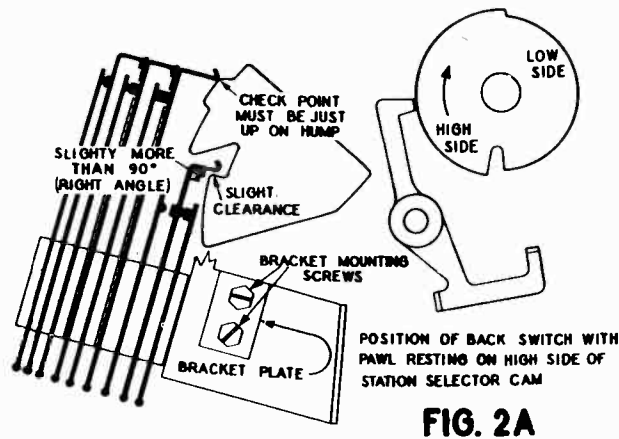
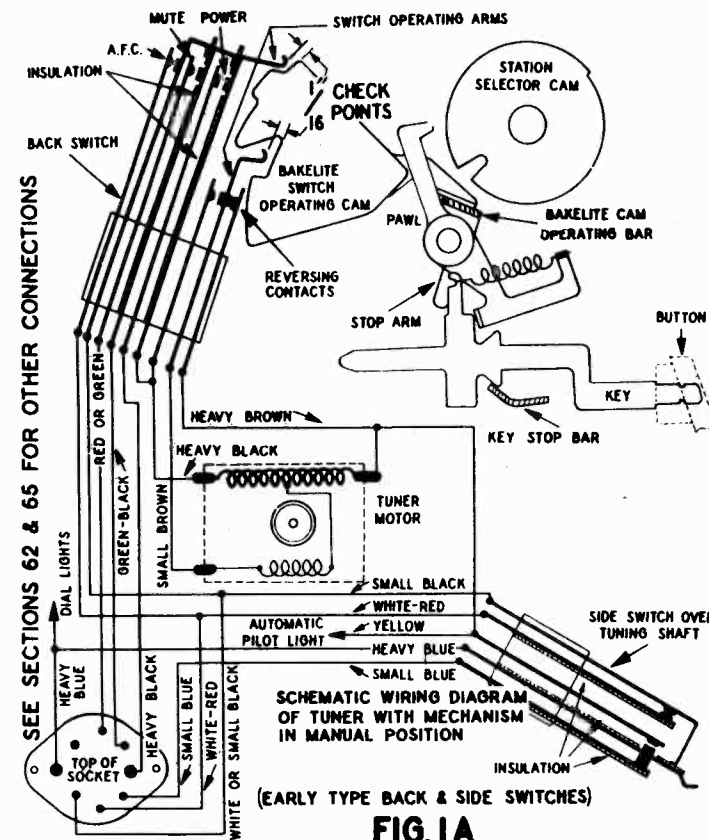
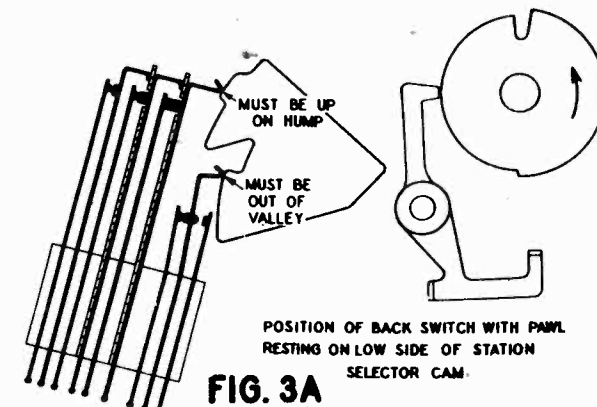
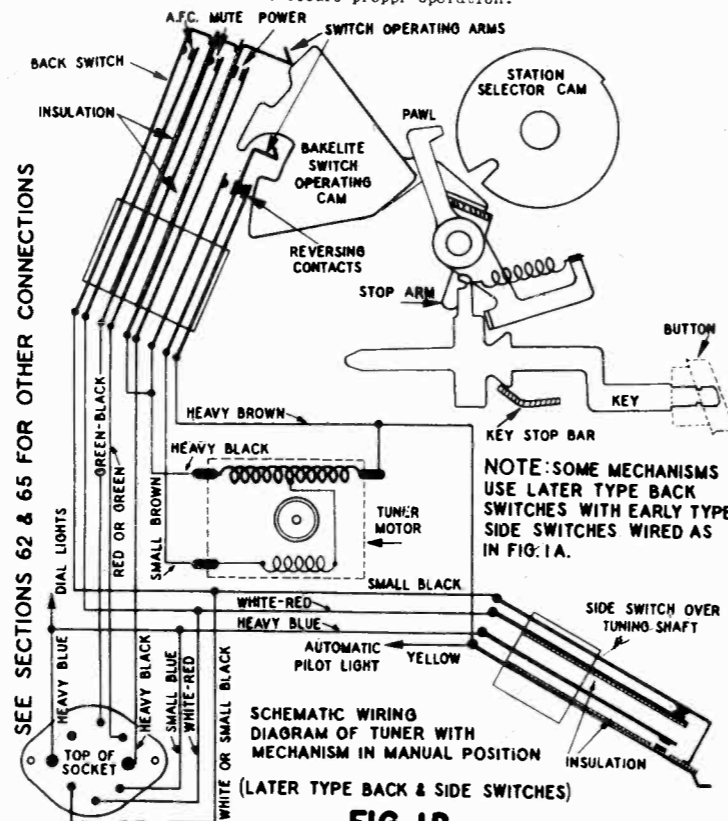

FIG. 2A
FIG. 1A
FIG. 3A
FIG. 1B
Two different types of Back Switches, and associated Bakelite Operating Cams, have been used. To determine whether the Switch is of the early or later type, notice the shape of the Bakelite Cam. The shape of the Bakelite Cam used on early units is shown in figure 1A; on later units it is shaped as in figure 1B. The various operating positions of the early type are shown in figures 1A, 2A, 3A and 4A. The positions of the later type are shown in figures 1B, 2B, 3B and 4B. Details of the correct settings for the early type are explained in sections 2 to 6. Details of the correct settings for the later type are explained in sections 8 to 12. MINOR ADJUSTMENTS OF THE BACK SWITCH TO SECURE THESE SETTINGS MAY BE MADE BY BENDING THE VARIOUS BLADES OF THE SWITCH.
2 Run the dial pointer to 530 KC. Turn the power off. With the mechanism in the manual position, the Back Switch Operating Arms should clear the Bakelite Cam by the amounts indicated in figure 1A. Push any button so that the Pawl falls on the high side of the Station Selector Cam. The Reversing Contacts Operating Arm should clear the Bakelite Cam as indicated in figure 2A. IF THESE CLEARANCES ARE APPROXIMATELY CORRECT, PROCEED WITH SECTION 3. However, if the clearances are not as shown, slight discrepancies can be corrected by bending the Arms, but if the entire switch seems to be out of position, loosen the Bracket Mounting Screws (Figure 2A) and move the entire Back Switch assembly to give the proper clearances.
a. With the Bakelite Cam down as in figure 2A, the center contact should make with the front contact, while with the Bakelite Cam pulled up as in figure 3A, the center contact should make with the Back Reversing Contact. After the instant of closing the blades should move slightly to show adequate contact pressure. IMPORTANT: Make sure that the center contact is not touching both the front and back contacts at any one time, since this may short circuit the 6-volt winding of the power transformer. If the Reversing Contacts do not make or break properly, bend the switch blades to secure proper operation.
b. With the dial pointer at 530 KC. push each button and make sure that the Reversing Contacts Operating Arm does not touch the Bakelite Cam. See figure 2A. The Pawl, in every case, should rest on the High Side of the Station Selector Cam.
c. Now pull out the Set-up Knob and run the pointer to the high frequency end of the dial by turning the Set-up Knob clockwise. Push each button to make sure that the center contact closes with the back Reversing contact. See figure 3A. In every case the Pawl should rest on the Low Side of its cam.
4 Turn the Tuning Knob to release the depressed button. This puts the Bakelite Cam in the position shown in figure 1A. so the Power, Mute and A.F.C. contacts of the Back Switch can be checked as follows:
b. All three sets of contacts should be open approximately 1/54 to 1/32 of an inch. Move the Bakelite Cam up and down by hand and observe the action of the contacts. As the Bakelite Cam is moved up (to the position of figures 2A or 3A) all three sets of contacts should close. After the instant of closing the blades should move slightly to show adequate contact pressure.
a. Run the dial pointer to the low frequency end of the dial. Push any button so that the Pawl falls on the High Side of the Station Selector Cam. The upper Back Switch Operating Arm should rest just up on the "hump" of the Bakelite Cam, at the "Check Point" shown in figure 2A. If the Operating Arm is not in this position, bend the Arm slightly to secure such setting. If the Operating Arm is down off the "Hump", the Power, Mute or A.F.C. contacts may remain closed after a station is tuned in. If
13 The Bakelite Cam may stick because of improper adjustment of the Back Switch. The clearances shown in figures 1A or 1B should be maintained. This prevents too much pressure by the Back Switch Operating Arms against the Bakelite Cam. See paragraph 4a or 10a. Other causes for the Bakelite Cam to stick are: rough edges on the Bakelite, and insufficient tension in the Bakelite Cam Return Spring (figure 13). Tension in the Return Spring may be increased, if found necessary, by simply cutting off a few turns and forming a new hook on the end.
The Stop Arm (figure 1B) on the bar carrying the Bakelite Cam, should hit against the Rubber Stop (figure 14). This keeps the Bakelite Cam from jumping too high and catching over the Reversing Contact Arm. If this Rubber Stop is missing, a couple of turns of friction tape around the shaft will serve the same purpose.
The extra blade in the early Side Switch was used to switch the Visual Tuning Indicator light on during Manual tuning and off during Automatic Tuning. With the later Side Switch this light remains on during both Manual and Automatic tuning. In addition, with the later side switch the 6 volt line and Motor-Automatic light circuit wires were reversed. See figure 1A and 1B for circuit difference.